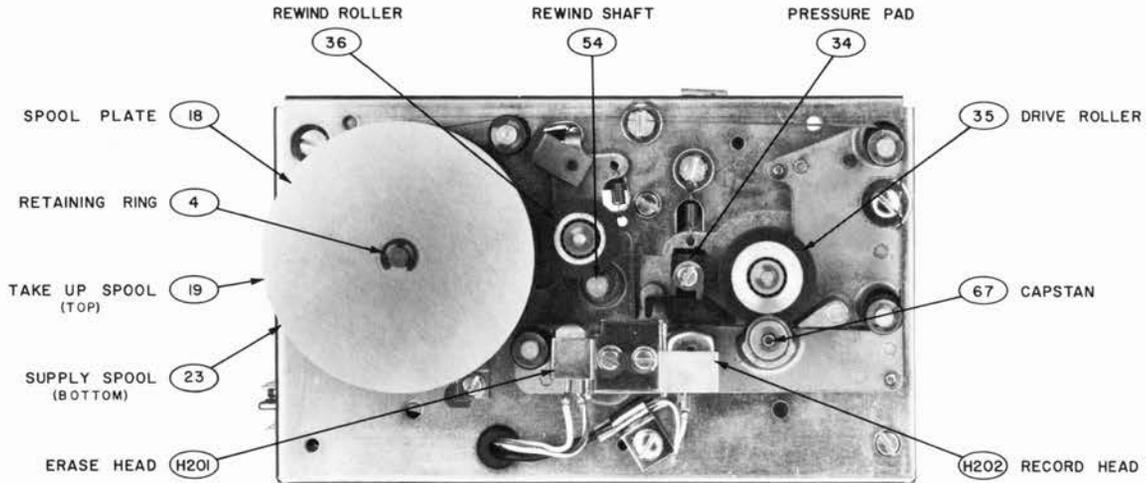

FIGURE 9 TAPE DECK FRONT VIEW, COVER REMOVED
- (3) Remove retaining ring and spool plate (fig. 9).
- (4) Rotate spools clockwise to wind tape onto supply spool until end of tape is visible.
- (5) Disconnect tape from take up spool and carefully allow take up spool to rotate until clock spring inside is relaxed.
- (9) Rotate spools counterclockwise to wind tape 10 turns onto take up spool.
- (10) Replace spool plate and retaining ring (fig. 9).
- (11) Replace tape deck cover with three 6-32 x 5/32" screws and lock washers.
- c. With cloth or swab moistened in alcohol clean erase and record heads, pressure pad, drive roller, and capstan (fig. 9).
- a. Pressure pad (fig. 9):
4. Operates forward solenoid L202 to pull drive roller into contact with recording tape and capstan (fig. 9).